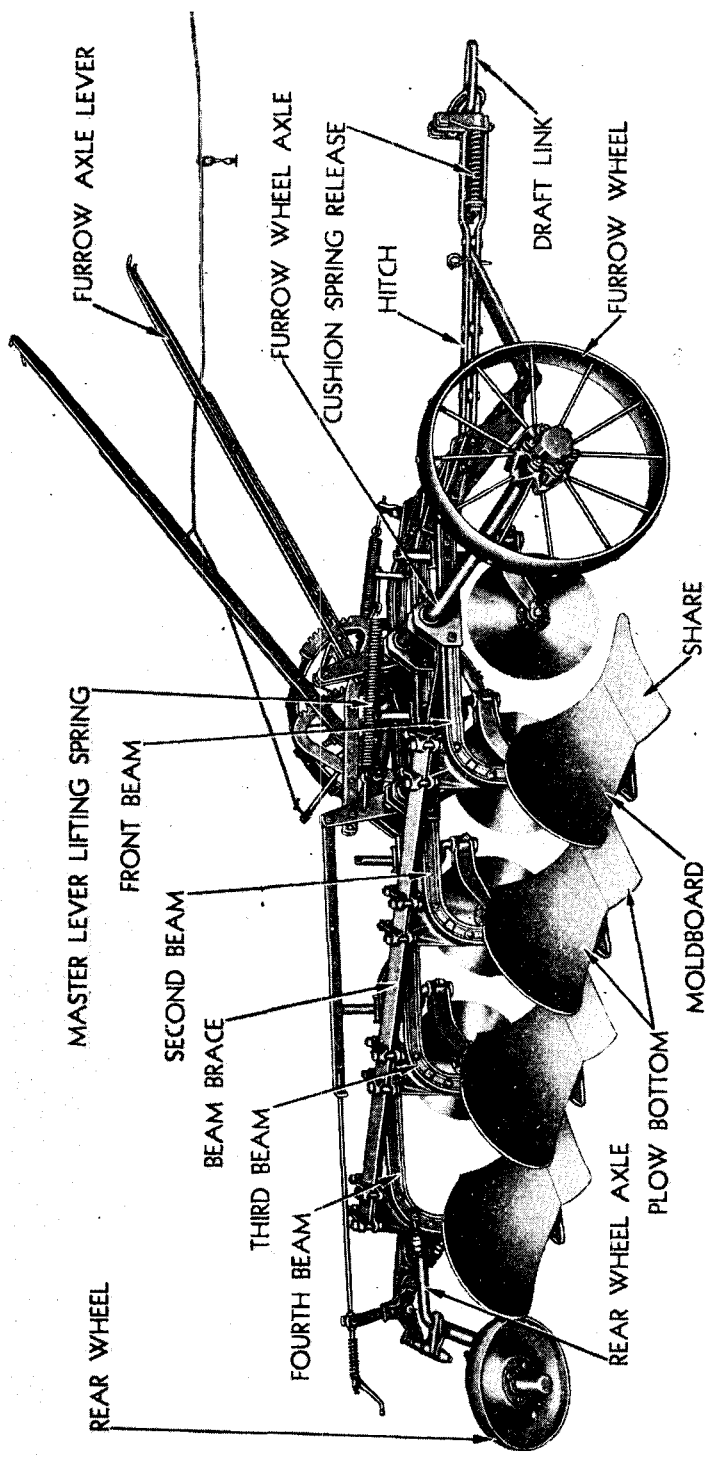

FIGURE 1—MOLDBOARD VIEW (RIGHT HAND) JOHN DEERE No. 7 TRACTOR PLOW
A. Identification.—This implement is illustrated in Figures 1 and 2 and shows left (landside) and right (moldboard) views. No serial number is assigned to this plow. It is referred to by model as “No. 7 Four-Bottom Tractor Plow”.